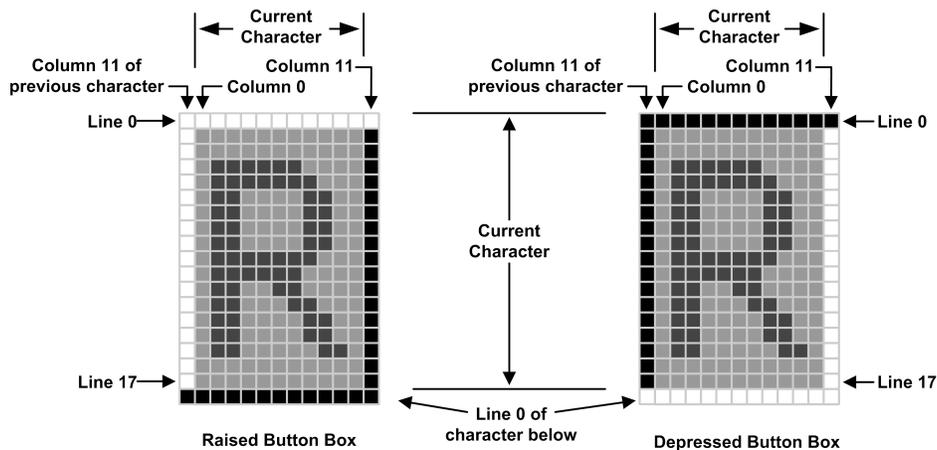
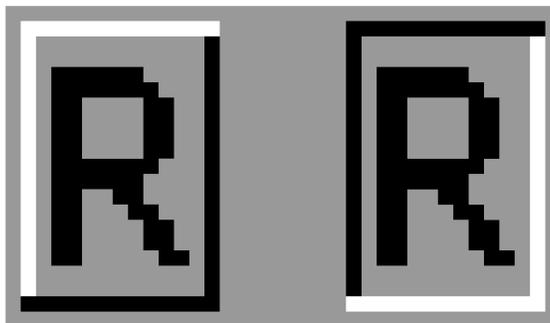

Figure 19. Button Box Detail
Figure 20. On-Screen Effect of Button Boxes
1. **Button Boxes**—The OSD generator examines the character string being displayed and if the “button box” attributes have been set in the Enhanced feature byte, then a box creator selectively substitutes the character pixels in either or both the top and left most pixel line or column with a button box pixel. The shade of the button box pixel depends upon whether a “depressed” or “raised” box is required, and can be programmed through the I²C compatible interface. The raised pixel color (“highlight”) is defined by the value in the color palette register, EF1 (0x8405 - 0x8406), which is normally set to white. The depressed pixel color (“lowlight”) color by the value in the color palette register, EF2 (0x8407 - 0x8408), which is normally set to gray. See Figure 19 for detail and Figure 20 for the on-screen effect.
The microcontroller interfaces to the LM1247 preamp using the I²C compatible interface. The protocol of the interface begins with a Start Pulse followed by a byte comprised of a seven bit Slave Device Address and a Read/Write bit. Since the first byte is composed of both the address and the read/write bit, the address of the LM1247 for writing is 0xBA (10111010b) and the address for reading is 0xBB (10111011b). The development software provided by National Semiconductor will automatically take care of the difference between the read and write addresses if the target address under the communications tab is set to 0xBA. Figure 19 and Figure 20 show a write and read sequence on the I²C compatible interface.